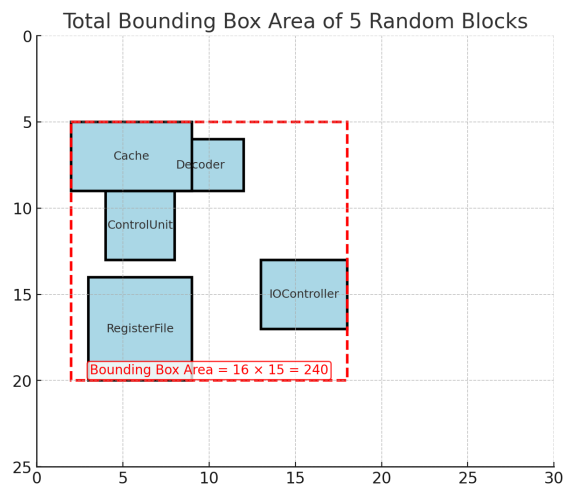

Figure 2
2. **Minimizing the total bounding area:** Figure 2 above hints at how the total bounding area can be calculated for a random placement of 5 component blocks. The red dashed rectangle is the bounding box- aka the smallest rectangle that contains all of the blocks inside. Given the **bottom left coordinates (x,y)** for all block components, you can easily find out the minimum and maximum of all x and y values, which will help you to calculate the area of such a bounding box $[(x_{\text{max}} - x_{\text{min}}) * (y_{\text{max}} - y_{\text{min}})]$. The **smaller** the bounding box area is, the **better** the layout is.
3. **Minimizing total component overlaps:** In Figure 2, there exists an **overlap** between the two components (**cache and decoder**). A single block can, in fact, be overlapped with multiple other blocks in a random placement. **Overlaps are not desirable**. Hence, a